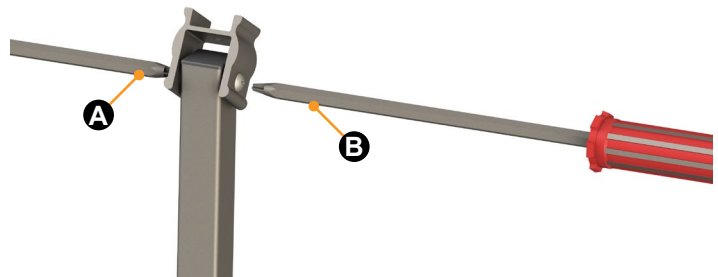

Fig.16
11. Use two Phillips screwdrivers, one to hold the barrel nut in place and the other screwdriver to tighten the pivot screw. See figure 16.